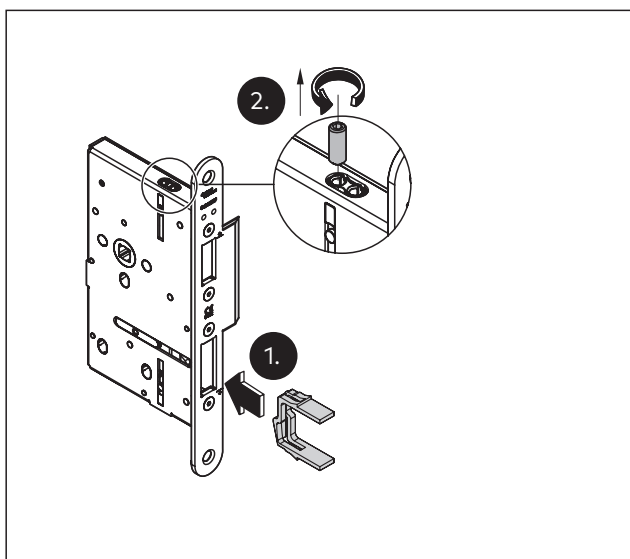

Fig. 37 Unscrew one grub screw
3. Completely unscrew one of the grub screws at the top of the lock (Fig. 37). The espagnolette bolt will later be screwed in at this position.